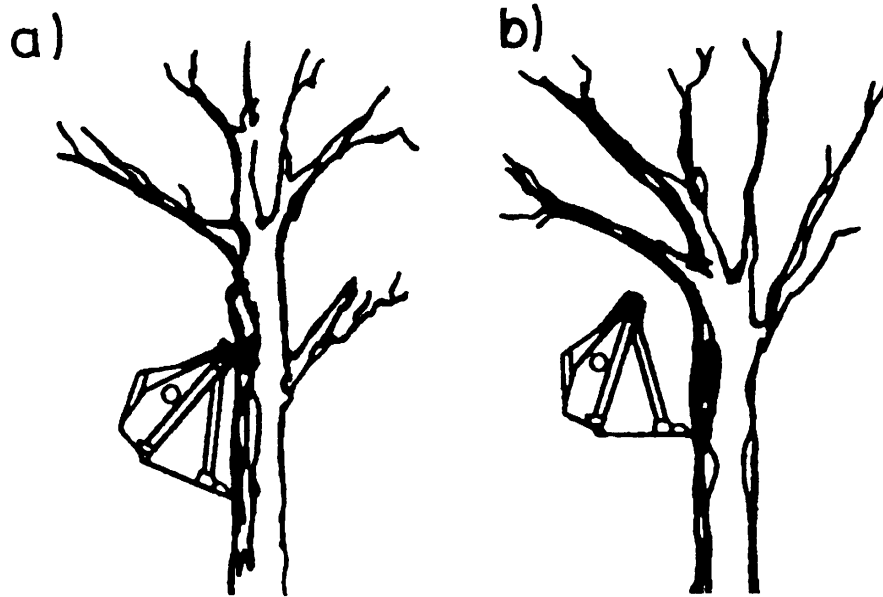

Fig. 4.55. Position of the Bucket When Removing Small Tree
- When clearing trees, raise the bucket high to gain leverage and make contact gently to reduce possible harm to the operator and loader. The bucket must be positioned with bottom parallel with the ground. DO NOT push with the top of the bucket (Fig. 4.55)